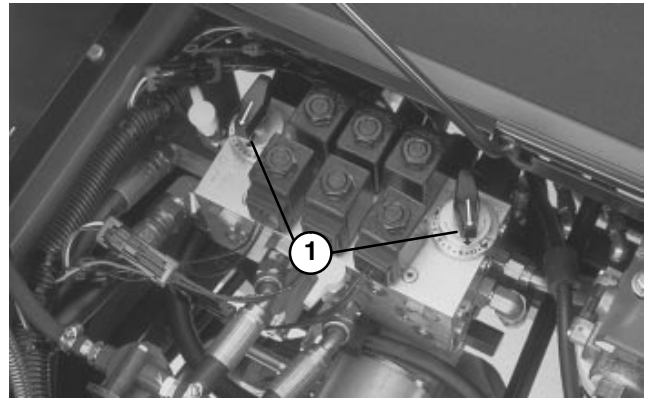

Figure 34
SETTING REEL SPEED (Fig. 34)
4. To set reel speed, rotate knobs (Fig. 34) until indicator arrows are in line with the number designating desired setting.